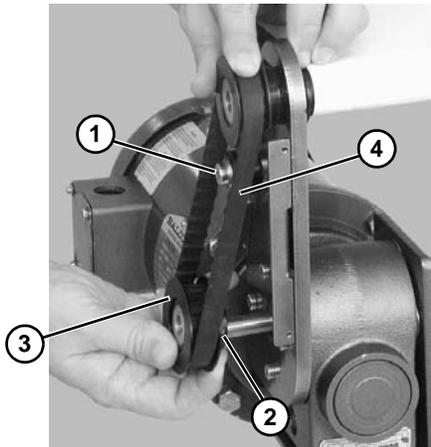

Figure 25
If drive pulley (**Figure 25, item 2**) is replaced, wrap timing belt around drive pulley and complete step 3.
2. Loosen tensioner (**Figure 25, item 1**).
3. Loosen drive pulley set screws (**Figure 25, item 2**). Remove drive pulley (**Figure 25, item 3**) and timing belt (**Figure 25, item 4**).